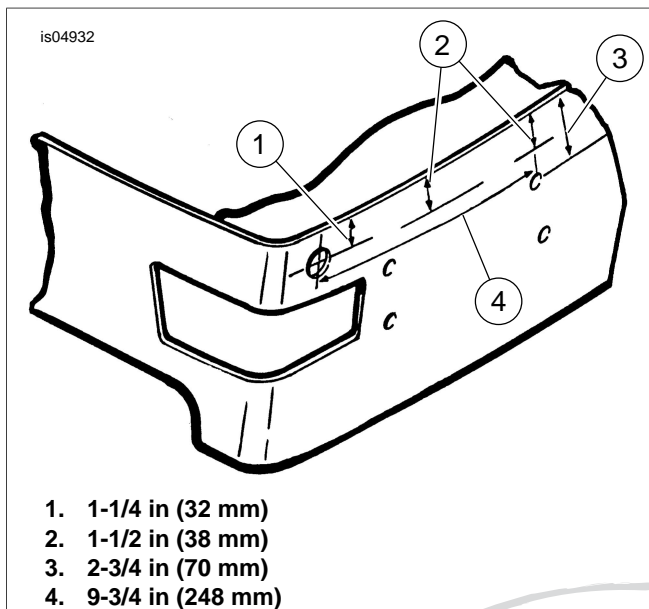

Figure 4. Centering and Squaring Lamp Housing
11. See Figure 4. Measure down from lip at top of Tour-Pak a distance of 2-3/4 in (70 mm) (3) at centerline. Mark a reference point. Measure down 1-1/2 in (38 mm) (2) from lip and make a horizontal line at three places, one at center, one 6 in (152 mm) left of center, and one 6 in (152 mm) right of center.